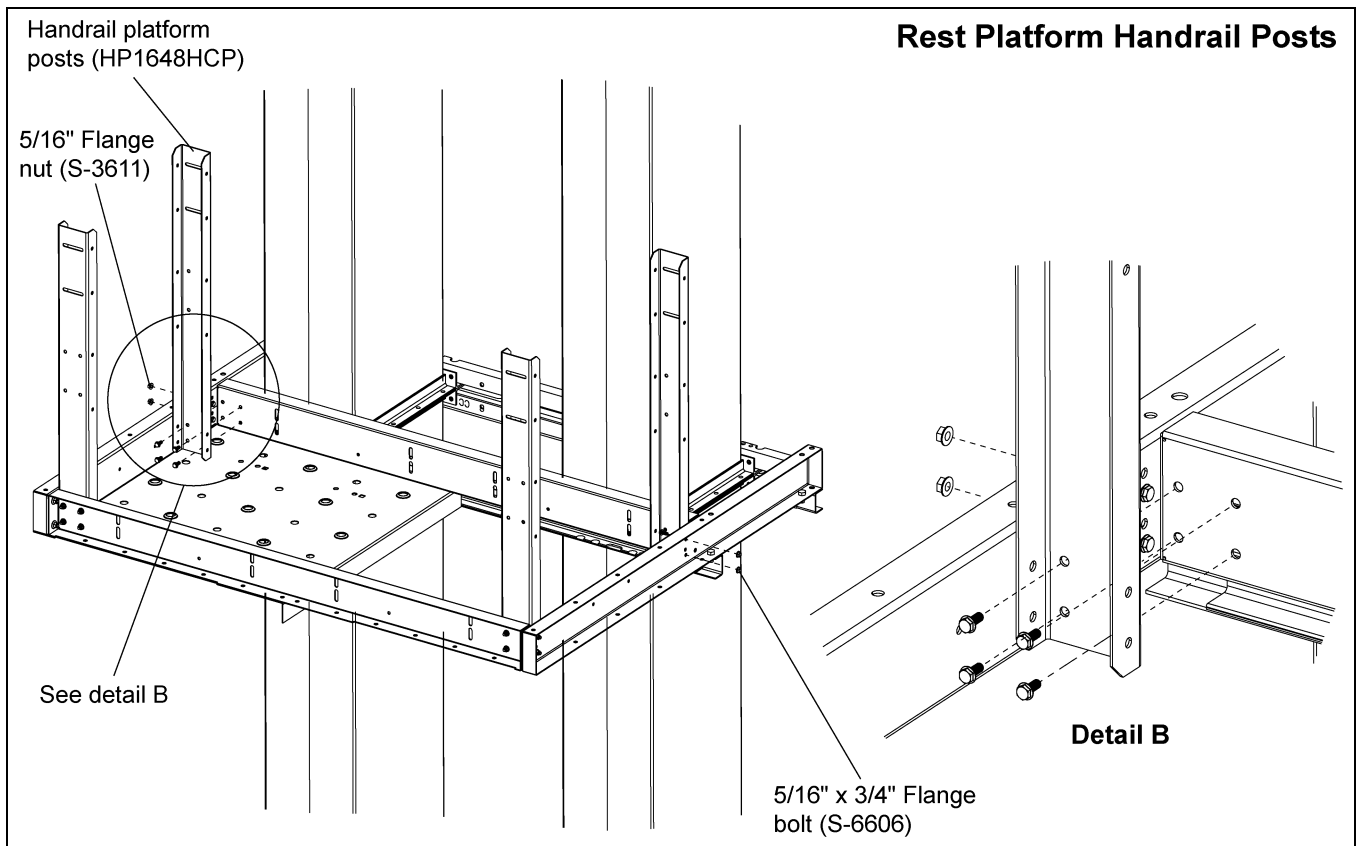

Figure 7H
3. Install the handrail platform posts to the rest platform mounting channels and rest platform channels using six (6) 5/16" x 3/4" flanged hex bolts for each post, four (4) bolt to the front and two (2) on the side. (See Figure 7H.)